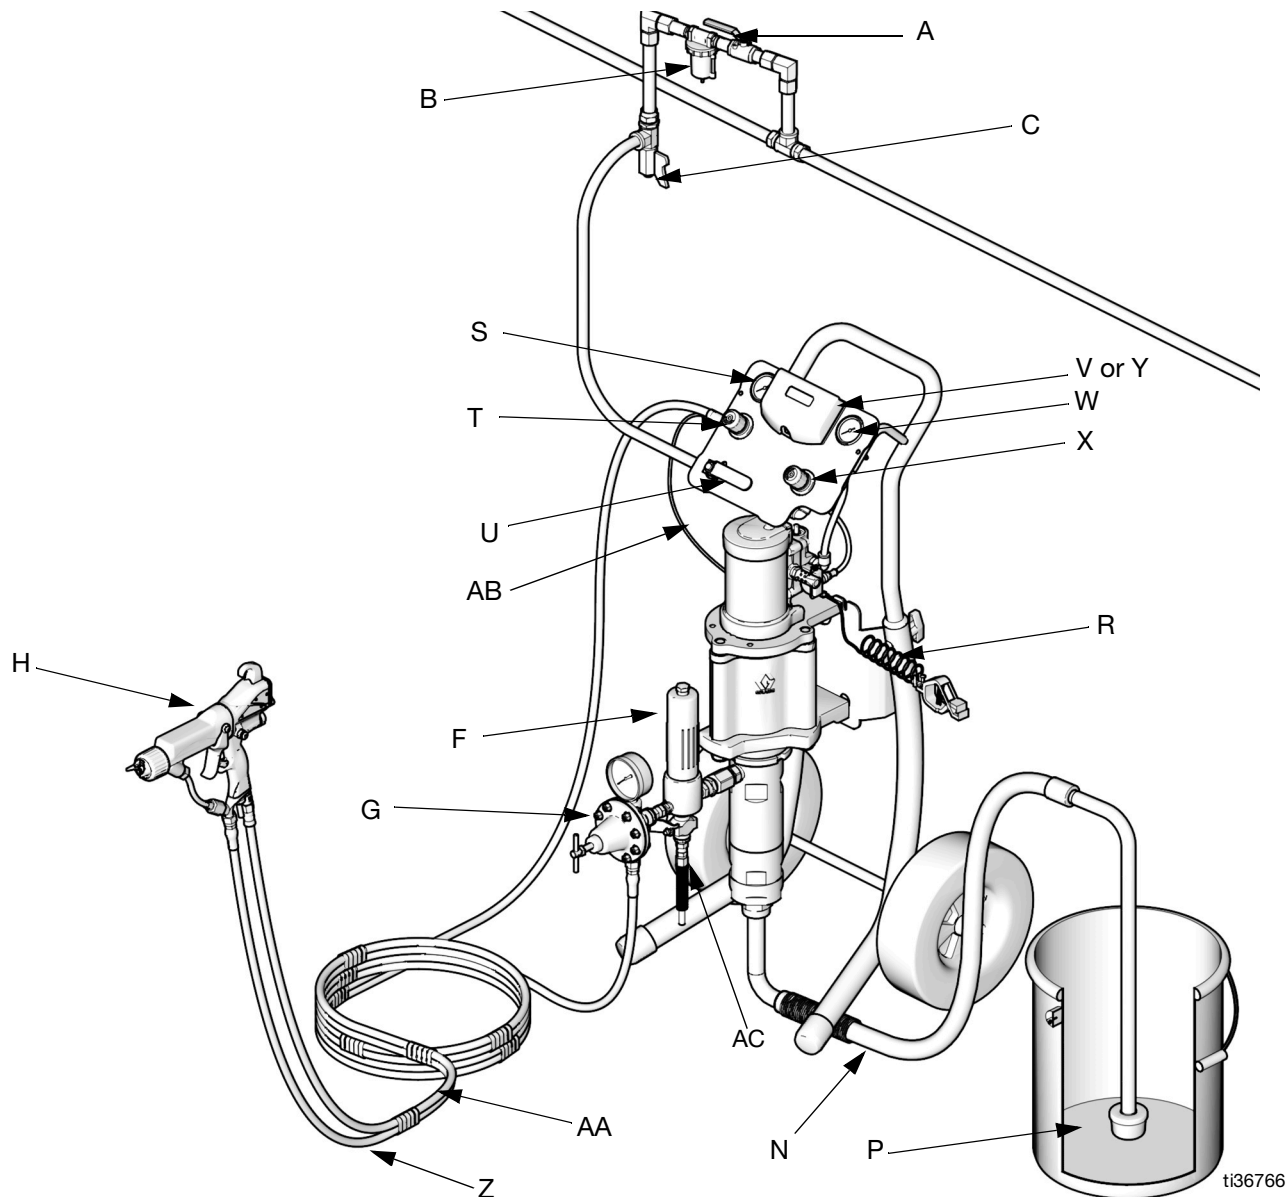

FIG. 1. Typical Installation
FIG. 1 is only a guide for selecting and installing system components and accessories. Contact your Graco distributor for assistance in designing a system to suit your particular needs.
See FIG. 1. **Components vary by package ordered.** See table on page 24. Your package may include:
1. See FIG. 1. Attach the gun fluid hose (Z) to the fluid regulator (G) outlet.
2. Attach other end of the gun fluid hose (Z) to the gun fluid inlet.
3. Attach the right-hand thread end of the air hose (AA) to the gun air regulator (T).
4. Attach the left-hand thread end of the gun air hose (AA) to the Electrostatic air spray gun (H) air inlet.